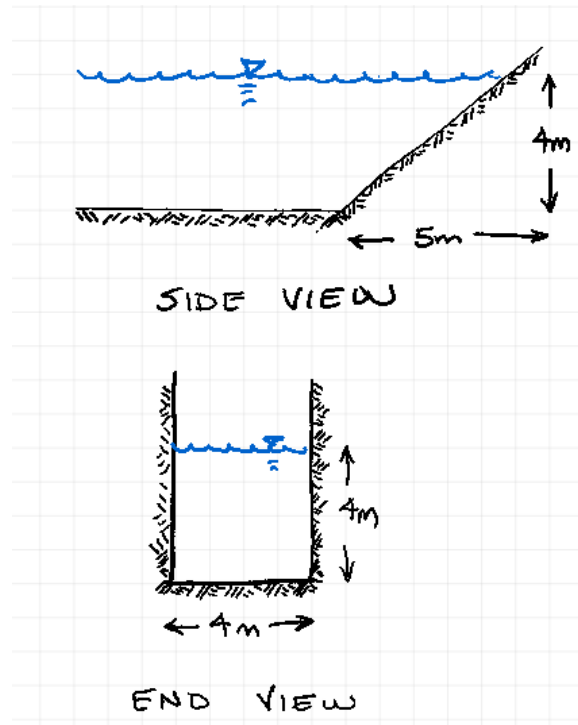

Figure 5:
18. A windmill is connected directly to a mechanical pump (inertia-type) to lift water from a well that is 10 feet deep as depicted on Figure 5. The wind turbine is a conventional horizontal-axis type with a fan diameter of 10 feet. The efficiency of the mechanical pump is 80%. The pump discharges to atmospheric pressure as shown through 20 feet of 2-inch galvanized pipe.